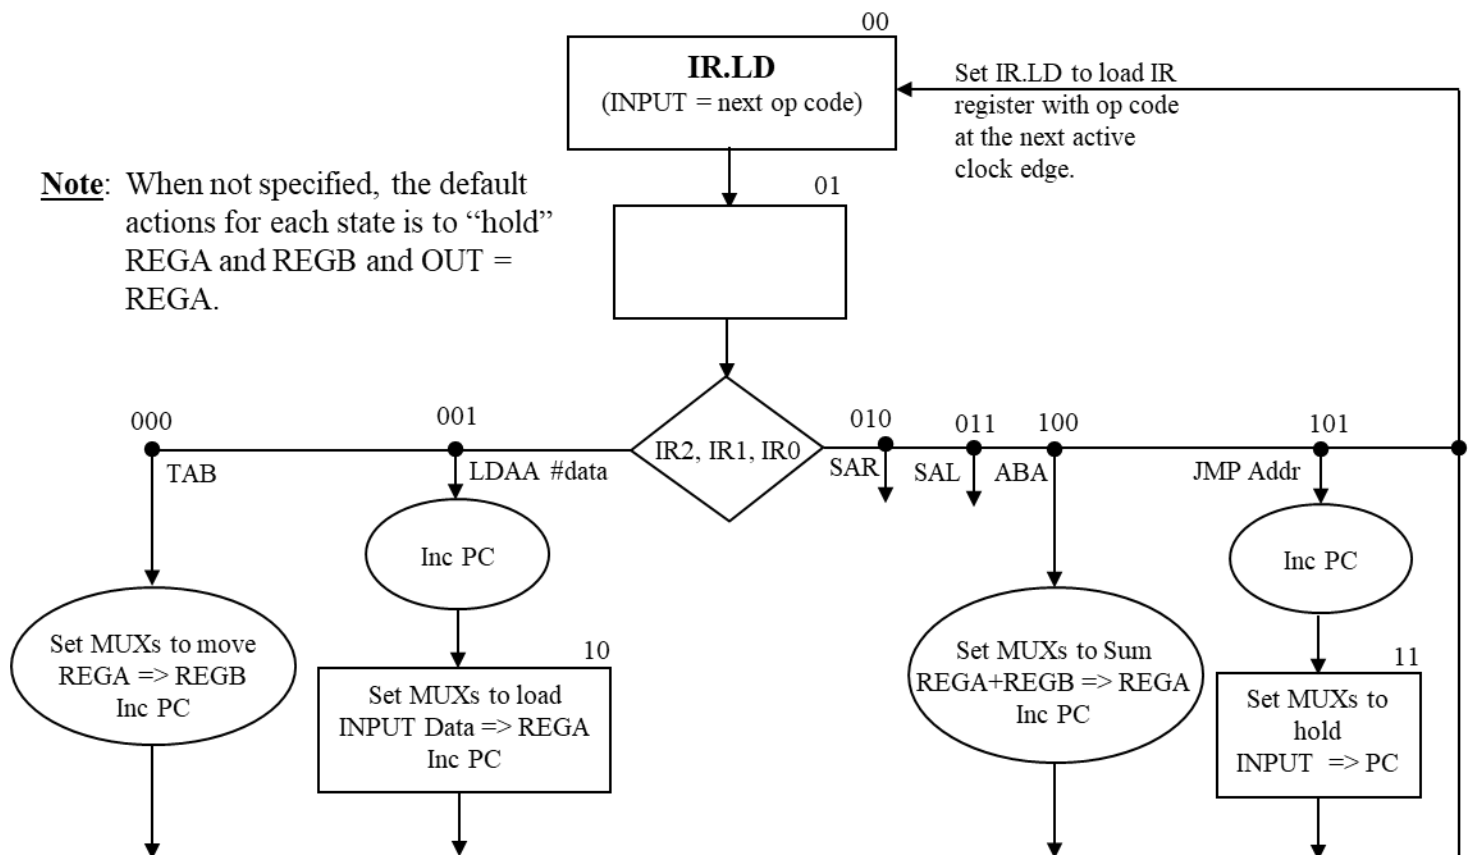

Figure 4. Controller flowchart (not an ASM).
incrementing the PC register or “Inc PC,” as shown in the Figure 4 flowchart.
- Create an ASM chart using the Figure 4 flowchart as an aide; i.e., put in the actual signals to control the PC, IR, and the MUXs. Complete the ASM diagram, by also including the required elements for the SAR and SAL instructions.